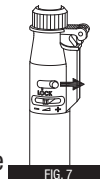

FIG. 7
Move the CONTINUOUS FLAME SWITCH to the right to shut off the flame. (FIG. 7)
- Move the CONTINUOUS FLAME SWITCH to the right to shut off the flame if the tool is in Continuous Flame Working mode. (FIG. 7)